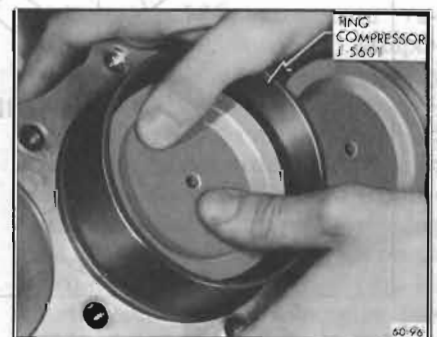

Figure 60-238—Installing Piston with Compressor Installed
8. Install piston rings as shown in Figure 60-238. Position expander ends over piston pin. In-